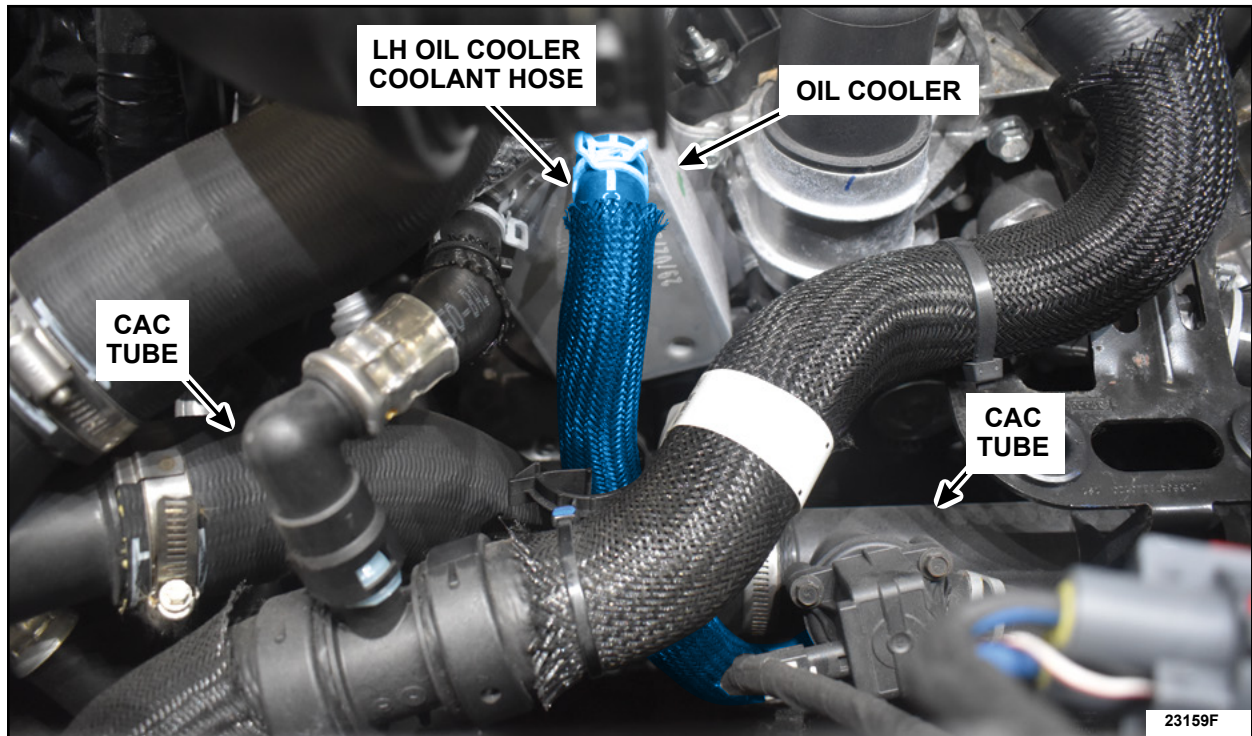

FIGURE 9
15. Route the LH oil cooler coolant hose over top of the CAC tube and install the hose to the oil cooler. See Figure 9.